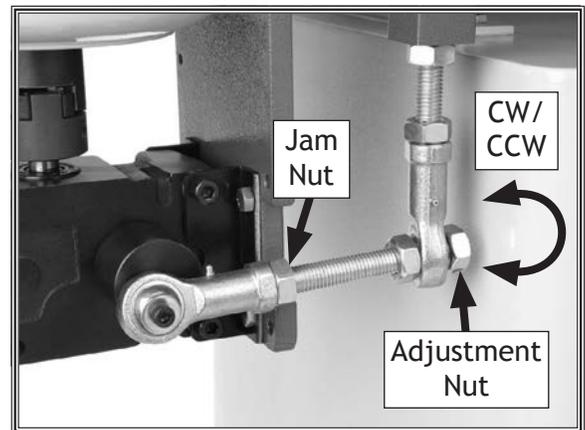

Figure 15. Check and adjustment nuts.
4. Loosen the jam nut shown in **Figure 15** about 1 turn.
- If the belt tracks above center, turn adjustment nut, shown in **Figure 15**, counterclockwise.